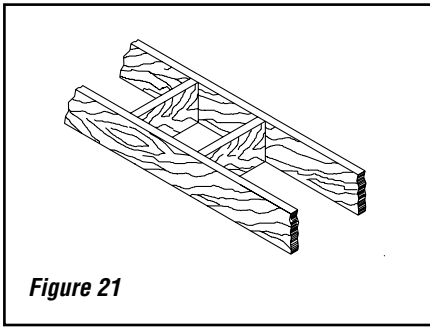

Figure 21
1. Cut and frame the holes in the ceiling, floor and roof where the chimney will pass (see **Figure 21**). Use a plumb-bob to line up the center of the holes. The sizes are indicated in **Table 2** for the floor and ceiling holes and **Table 3 (Page 17)** for the roof holes.